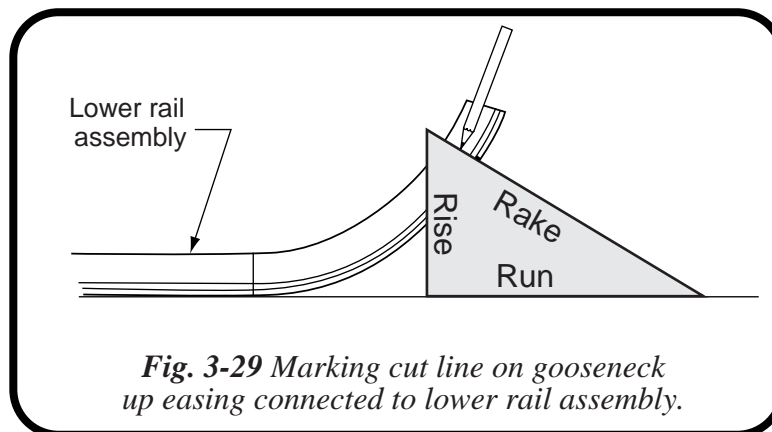

Fig. 3-29 Marking cut line on gooseneck up easing connected to lower rail assembly.
11. Turn the block “run” side down and align it with the mark and scribe a line across the side profile of the fitting. Please note Fig. 3-29 here.